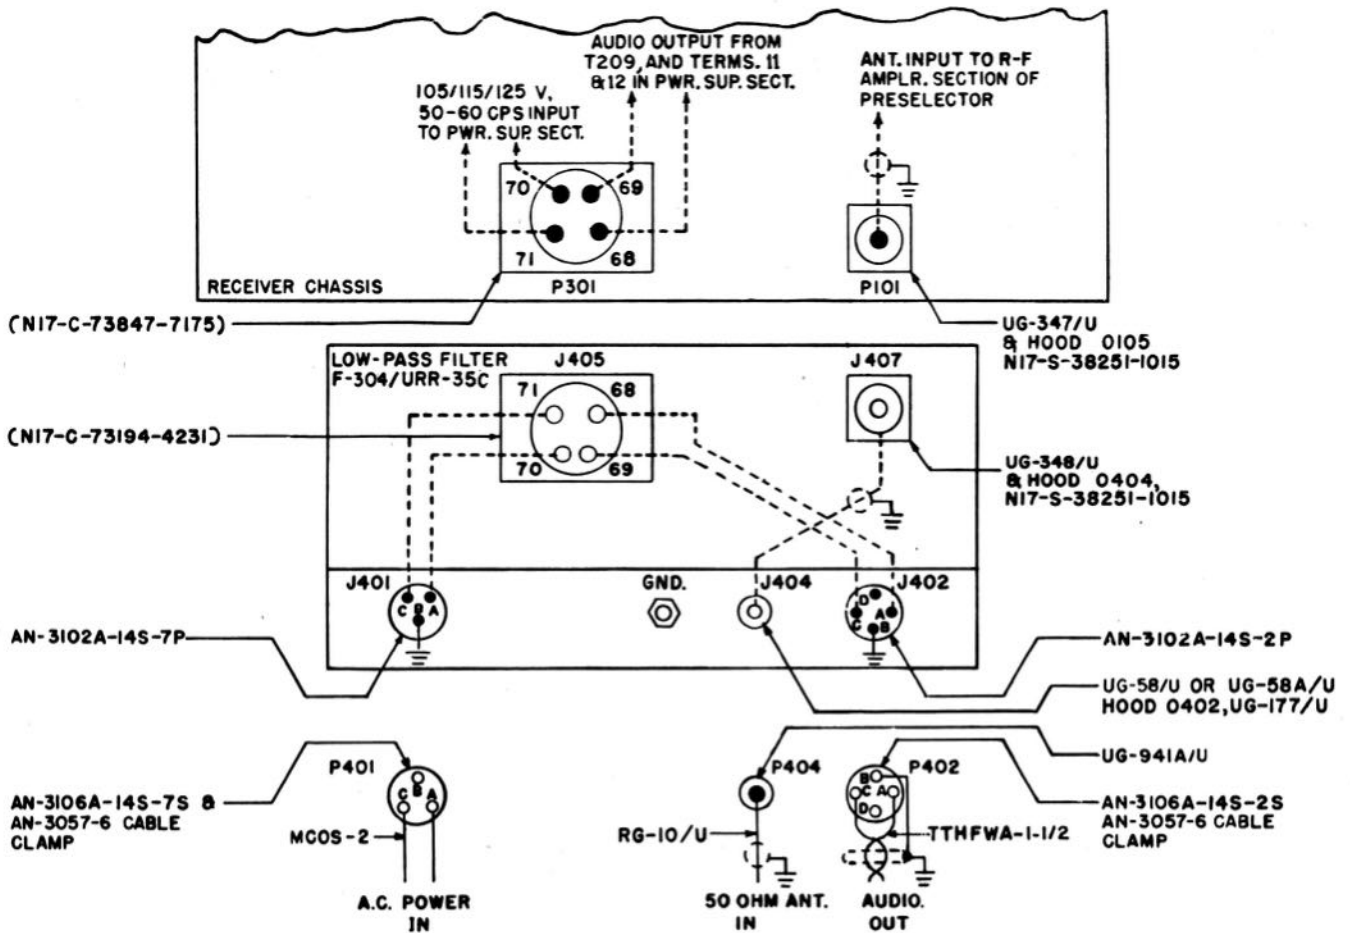

Figure 3-5. Connectors and Cables for External Connections
b. **EXTERNAL CONNECTIONS.**—External connections are made to suitable connectors on Low-Pass Filter F-304/URR-35C, which is attached to the rear of the receiver cabinet; see figure 1-3. Cables for making external connections to the receiver are not supplied, but connector plugs suitable for use with such cables are provided. The types and functions of these plugs are indicated in figure 3-5 and summarized in table 3-1.